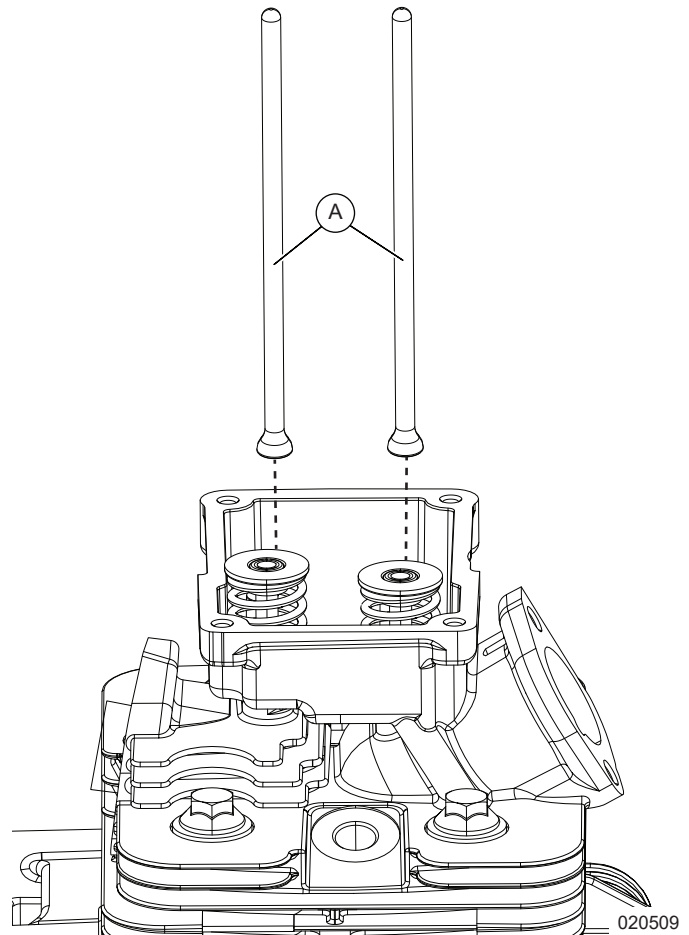

Figure 12-6. Install Pushrods into Cylinder Head
1. See Figure 12-6. Apply assembly lube to each end of two pushrods (A). Install pushrods into cylinder one.